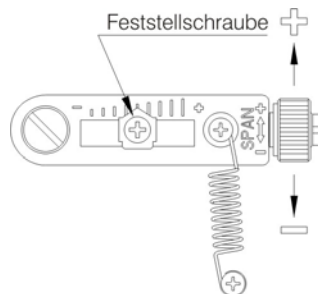

Figure 13
1. After setting the zero point set the input signal to 20 mA or 4 mA. Check the drive stroke. If the stroke is too small, adjust the stroke width toward '+'. If the stroke is too high adjust the stroke width toward '-'. Figure 13
2. Remove the O-ring from the OUT1 output and install the corresponding cover. After attaching the cover set the O-ring back. Be sure no foreign objects enter the input. Figure 13